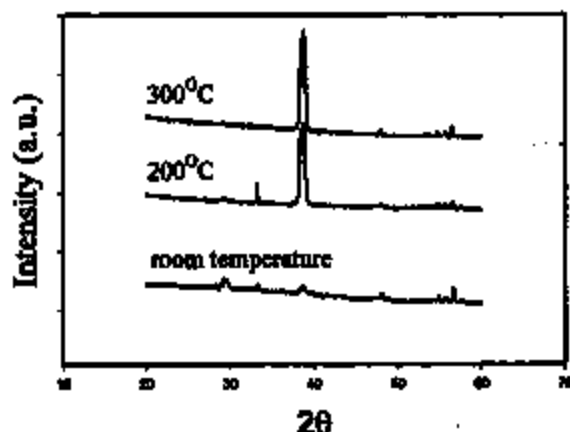

Fig. 3. X-ray diffraction spectra of Al films deposited at various temperatures.
Fig. 2b shows the increment of surface roughness of an Al film before and after thermal annealing. The roughness increments are 3.3 and 2.1 nm for the sample deposited at RT and 300°C, respectively. The roughness increment of Al films rapidly decreases with increasing deposition temperature. Hillock formation can lead to excessive surface roughness. A smaller increment of surface roughness after thermal annealing indicates higher resistance against hillock formation. Therefore, high-temperature deposition of Al films tends to increase hillock resistance. The experimental results can be interpreted as follows. A temperature excursion is necessary to produce the compressive thermal stress to cause hillock formation. Therefore, minimizing the temperature difference between the Al deposition step and subsequent high-temperature processing steps is expected to reduce hillock formation. In our experiment, the SiNx film is deposited at 300°C which is the highest process temperature for fabricating a-Si:H TFT devices. Therefore, the temperature difference between the Al deposition step and subsequent high-temperature processing steps is the smallest for Al film deposited at 300°C. On the other hand, the Al film deposited at RT encounters the largest temperature difference during process. It is thus reasonable that an Al film deposited at 300°C has higher hillock resistance than that deposited at room temperature. Furthermore, it is believed that grain orientation of Al can affect hillock formation [8–10]. An earlier study reported that a correlation between increasing (111) film texture and decreasing hillock density was observed [11]. Process conditions which enhance (111) texture formation are expected to suppress hillock formation. Fig. 3 shows the X-ray diffraction spectra of Al films